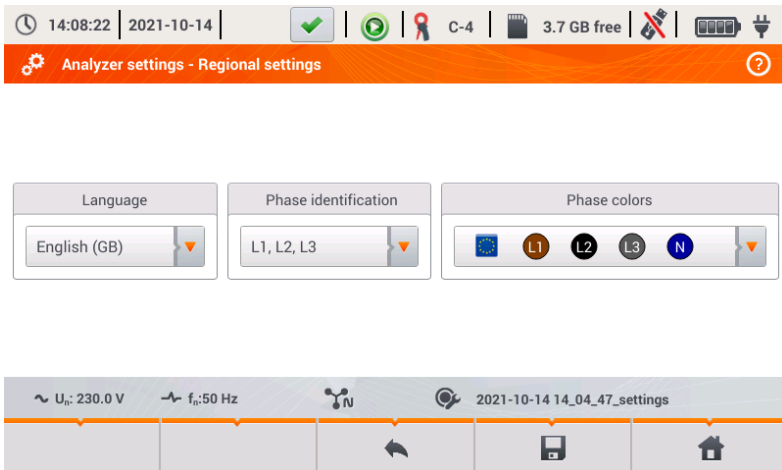

Fig. 17. Analyzer settings - Regional settings.
- **REGIONAL SETTINGS** – on this screen (Fig. 17) you may select: